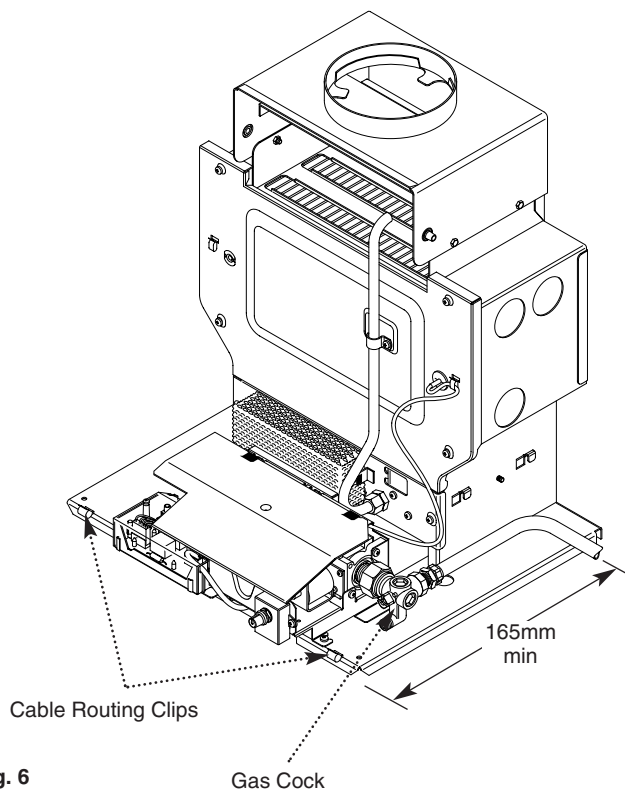

Fig. 6
### 4.7 Gas Supply (Fig. 6)
3. It is preferable to route the electrical supply cable to the left hand side of the builders opening. If however it must come from the right hand side it must be routed via the clips provided and not restrict the servicing of the appliance (Fig. 6).